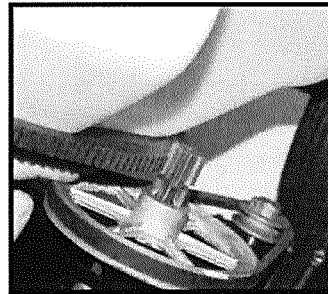

Fig.33: Turn mixing drum to check for smooth operation of mixer. Make sure drive gear and mixing gear are centered and flush to each other.
4. Turn mixer drum to ensure smooth movement of gears and drive belt (Fig.33). If there are any unexpected noises or movement, such as excessive rattling or wobbly pulleys, remove mixer drum and check that all components have been properly mounted and securely attached.